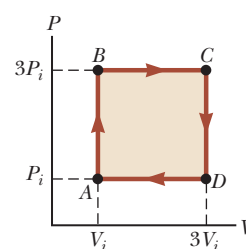

Figure P20.41
41. An ideal gas initially at  $P_i$ ,  $V_i$ , and  $T_i$  is taken through a cycle as shown in Figure P20.41. (a) Find the net work done on the gas per cycle for  $1.00 \text{ mol}$  of gas initially at  $0^\circ\text{C}$ . (b) What is the net energy added by heat to the gas per cycle?
42. An ideal gas initially at  $P_i$ ,  $V_i$ , and  $T_i$  is taken through a cycle as shown in Figure P20.41. (a) Find the net work done on the gas per cycle. (b) What is the net energy added by heat to the system per cycle?